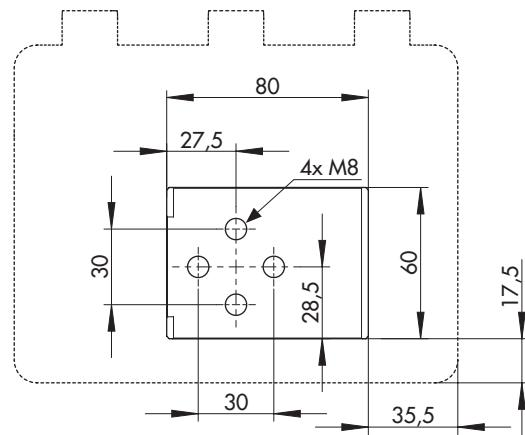

Fig. 5-3: Drill pattern
- 4x M8 tapped holes on the back (see Fig. 5-3 for hole pattern)